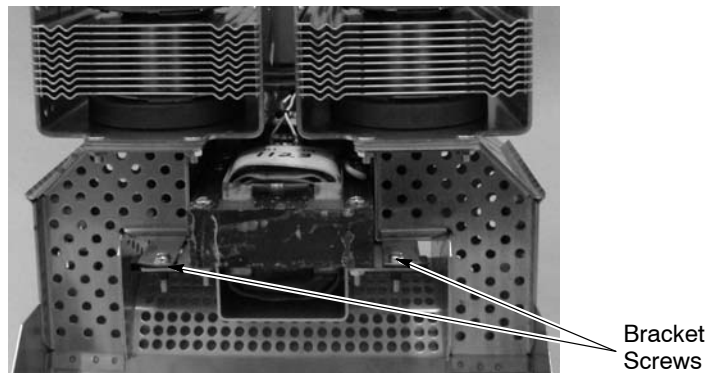

Figure 6-16 Transformer Bracket Screws
4. Remove the two M4 screws shown in Figure 6-16.
15. Slide the transformer bracket all the way into the wave guide assembly. Secure the bracket with the two M4 screws shown in Figure 6-16.